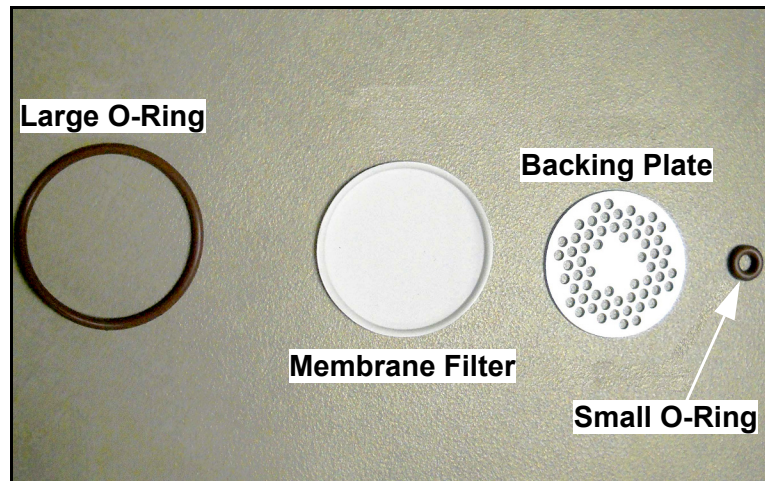

Figure 66: O-Rings, Membrane Filter and Backing Plate Removed
7. Using a tissue, clean the filter components (see *Figure 66* below).